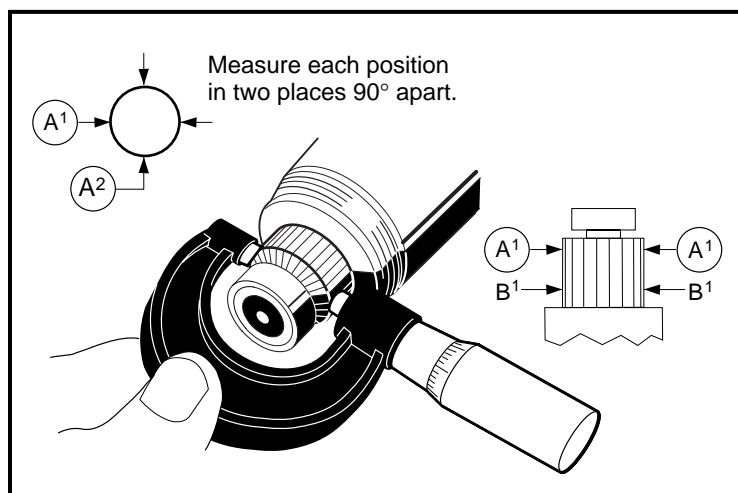

Figure 12-12 Inspect Commutator
2. Using a micrometer, measure the outside diameter at two points along the commutator. If the commutator outside diameter is less than 1.535 inches (39 mm), replace the armature and bearings (**Figure 12-12, Page 12-8**).